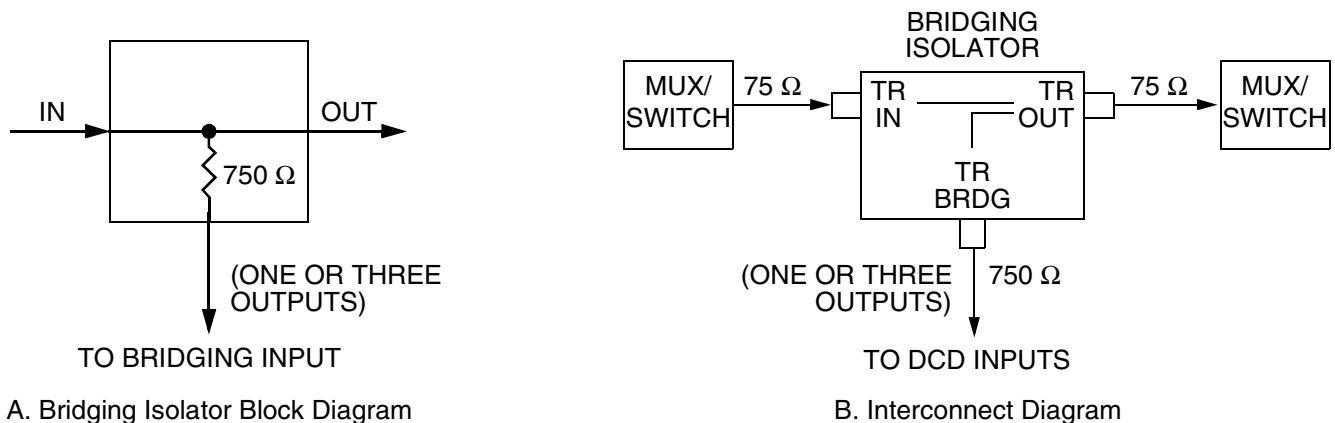

Figure 24. Bridging Isolator
3.13 The bridging isolator (Figure 24) is inserted in a cable to bridge a reference input signal or traffic-carrying E1/CEPT to the DCD Shelf. A connection from the bridging isolator may be used as a reference input for a clock input card, or as an input for a PSM card.